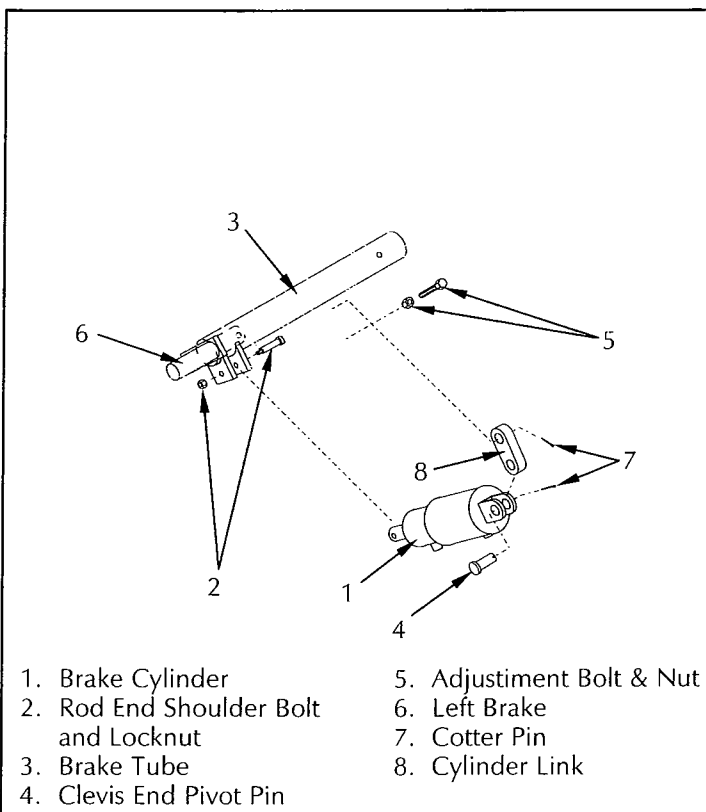

Figure 4-16: Brake Cylinder Installation
4.10 Brake Cylinder (Figure 4-16)